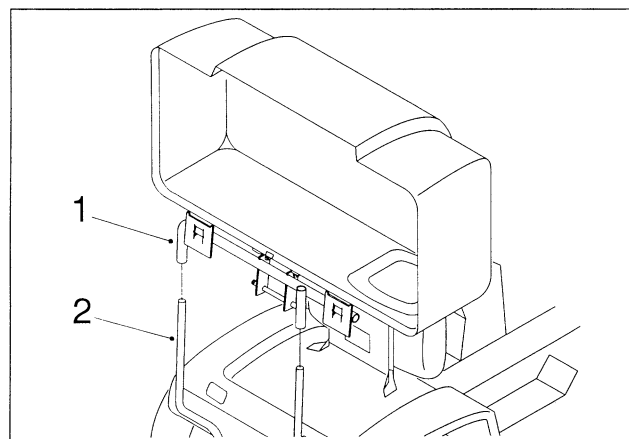

Figure 13
3. Tilt the rider seat forward. Slide the bagger top on to the quick-attach bracket (Fig. 13).